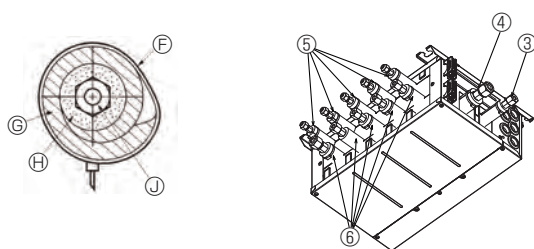
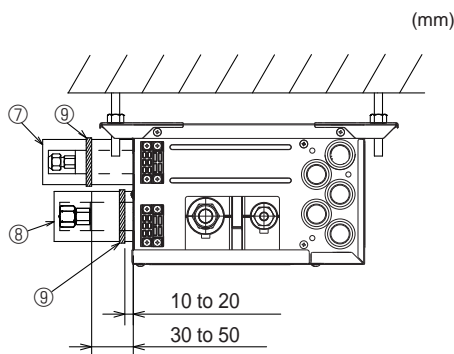

Fig. 7-4
Fig. 7-5
- Insulate the liquid and gas pipes of the branch box by attaching the heat-resistant polyethylene foam tightly around them. (Fig. 7-4)
- (5) Press the pipe covers ③ and ⑤ on the liquid piping against the unit and wrap to hold in place. (Fig. 7-4)
- (6) Press the pipe covers ④ and ⑥ on the gas piping against the unit and wrap to hold in place. (Fig. 7-4)
- (7) Apply the supplied bands ⑨ at a position 10 - 20 mm from each end of the pipe covers (③④⑤⑥).
- (8) If the indoor unit is not connected, fit the supplied pipe covers (with caps, ⑦ and ⑧) to the branch box refrigerant piping connections against the unit to prevent condensation dripping from the pipes. (Fig. 7-5)
- (9) Clamp the pipe covers (⑦⑧) in place with the supplied bands ⑨.
- ⑦ Band (3.1 Accessories No. ⑨)
- ⑧ Pipe covers (3.1 Accessories No. ③④⑤⑥)
- ⑨ Thermal insulation for refrigerant piping
- ⑩ Refrigerant piping
7.2 Handling of ports that are not connected to outdoor unit (Fig. 7-5)